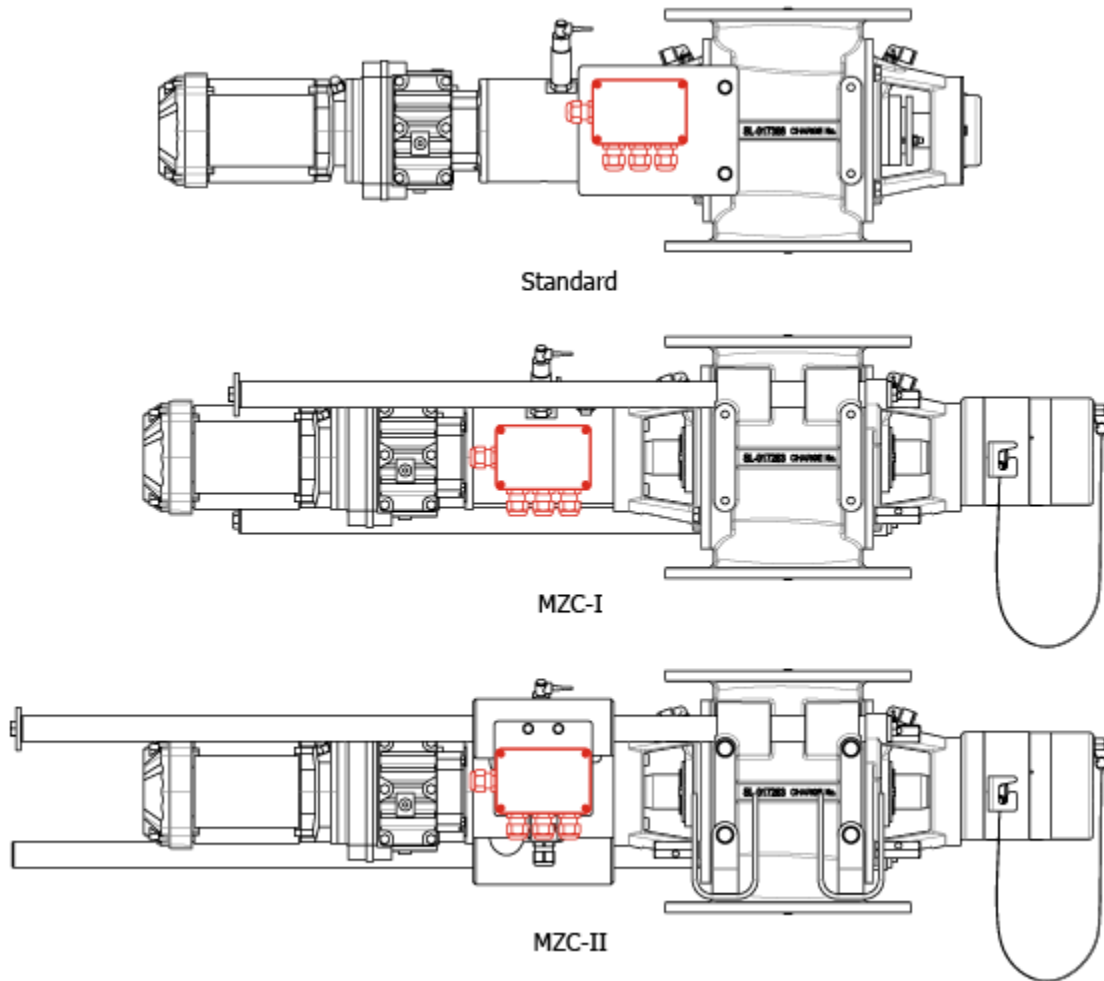

Figure 5 Position resistor box
- The open loop resistor box is already mounted on the valve by DMN-WESTINGHOUSE. See Figure 5 for position.